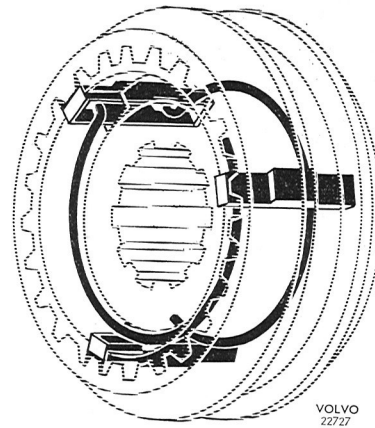

Fig. 4-34. Synchronizer assembly
3. Install parts for the 1st and 2nd synchronizer on the mainshaft. Install the springs correctly, see Fig. 4-34.
6. Install the thrust washer, 3rd speed gear and synchronizing ring on the shaft. Assemble the 3rd and 4th gear synchronizing parts. Install the snap rings correctly, see Fig. 4-34. Then install the synchronizer on the main shaft. Select a lock ring of correct thickness and install it.